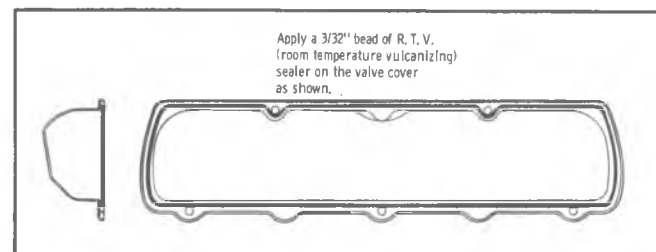

Fig. E-21—Applying Sealer on Valve Cover
1. Thoroughly clean the head and valve cover gasket surface. Apply 1051435 RTV (Room Temperature Vulcanizing) sealer or equivalent to the valve cover. (Fig. E-21)